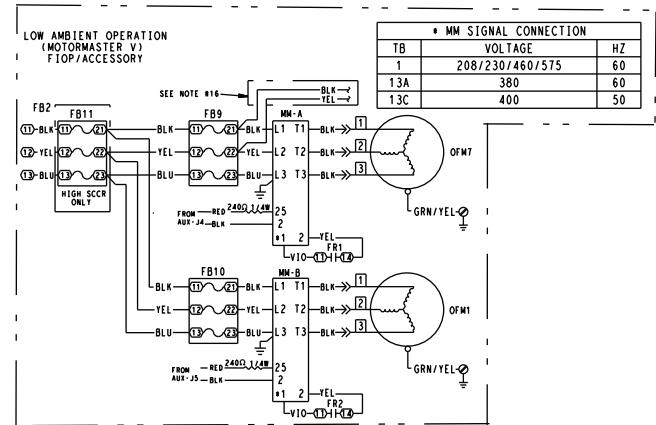

Fig. 22 — Motormaster V Power Wiring — 38APD115-130 Units
4. Connect fan wires from fan motor to terminals T1, T2, and T3 per Fig. 22.
- a. Connect BLK, YEL and BLU wires from harness (part no. 38APHLSLFV-A00) to fuse block 9 and 10 (FB9 and FB10) and the other end to MM connection L1, L2 and L3 per Fig. 22.
- c. Connect VIO and YEL wires to terminal 14 and 11 of FR-1 (FR-2) per Fig. 22.